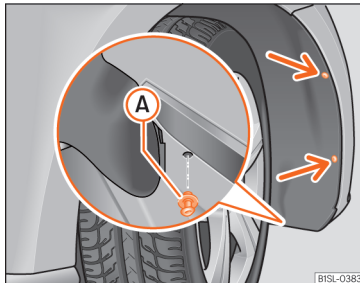
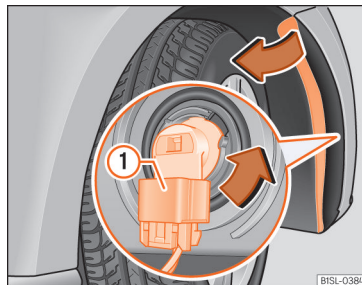

Fig. 87 In the front right arch trim: remove the retaining screws (arrows) and take out the expansive rivet (A).
Fig. 88 Changing the bulbs in the headlights
1. Unscrew the 2 retaining screws of the wheel arch trim **»»» Fig. 87** (arrows) with the screwdriver from the vehicle tool kit **»»» page 70.**
2. Unscrew the expansive rivet in the lower front part of the wheel arch trim (A) with the screwdriver from the vehicle tool kit and completely remove it **»»» page 70.**
4. Release the connector **»»» Fig. 88 (1)** and remove it.
5. Turn the bulb holder **»»» Fig. 88** in the direction of the arrow, **in an anticlockwise direction** as far as it will go and remove it, along with the bulb, pulling backwards. **»»**
10. Place the expansive rivet in the wheel arch trim and press it completely inwards » **Fig. 87 (A)**.
11. Securely screw the 2 retaining screws » **Fig. 87** (arrows) with a screwdriver.